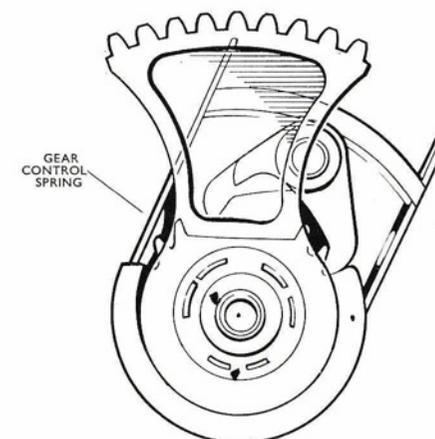

Fig. 41 Showing positioning of pawls and gear control spring relative to the quadrant.
- 3 Refit the gear control spring (see Fig. 41).
- 4 Fit the two pawls as in Fig. 41 – the first one must have the long claw facing to the front of the gearbox. The second pawl has the long claw to the rear of the gearbox.